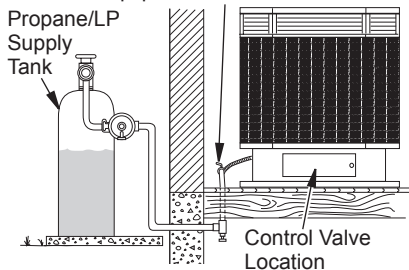

Figure 9 - Checking Gas Joints for Propane/LP Gas
3. Check all joints from gas meter to equipment shutoff valve (see Figures 9 or 10). Apply a noncorrosive leak detection fluid to all joints. Bubbles forming show a leak.
4. Check all joints from equipment shutoff valve to control valve (see Figures 9 or 10). Apply a noncorrosive leak detection fluid to all joints. Bubbles forming show a leak.